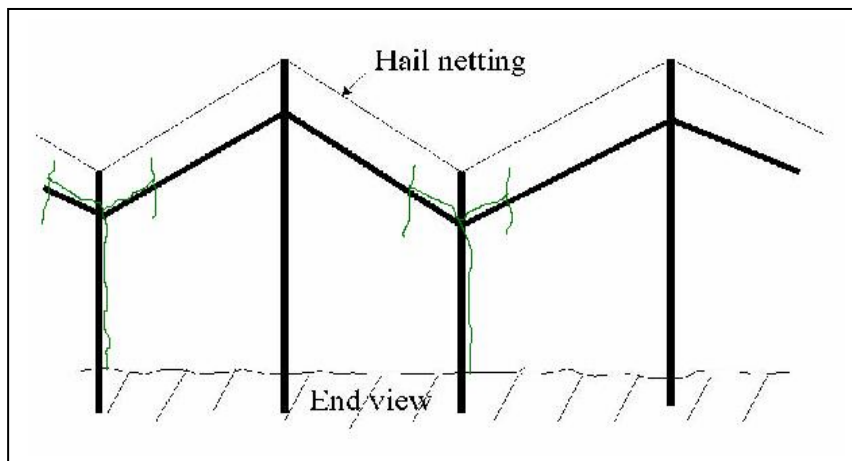

Figure 1: Double slanted cap or gable system suitable for double split cordon training system (indicated in green)
1. Study the diagram/plan of the system (Figure 1)